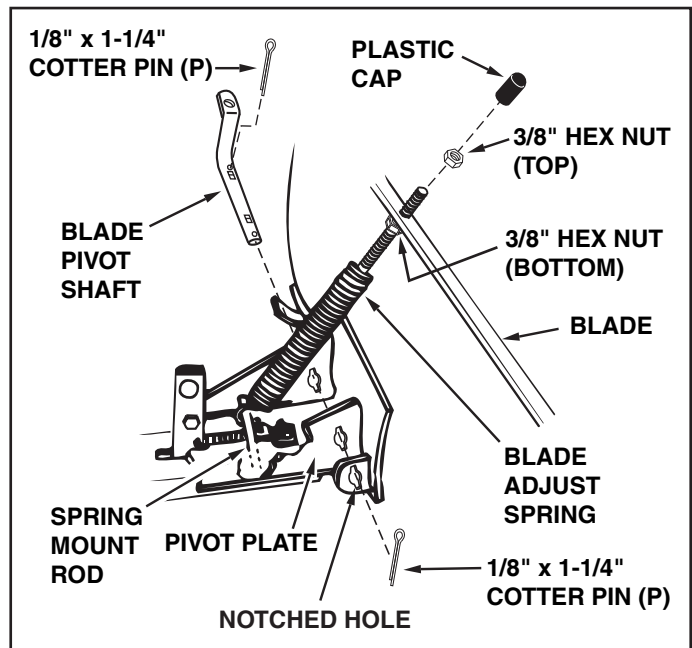

FIGURE 21 (Right Hand Side View)
STEP 7: (SEE FIGURE 21)
- To attach the blade to the channel assembly, align the notched holes in the pivot plate with the notched holes in the blade. Insert a 1/8" x 1-1/4" cotter pin (P) down through the hole at the bend in the blade pivot shaft. Spread the ends of the pin. From the left side insert the blade pivot shaft, bend facing top of blade, through the notched holes. Secure the shaft with another 1/8" x 1-1/4" cotter pin (P) through the end hole in the shaft. Spread the ends of the pin.
- The tension of the blade adjust spring may be altered to permit the blade to tilt forward to bypass solid obstructions. To change the spring tension, adjust the nuts at upper end of the spring bolt. Standing in front of blade, turn the nuts counterclockwise to relieve tension and clockwise to increase tension. Refer to figure 21 on page 11.